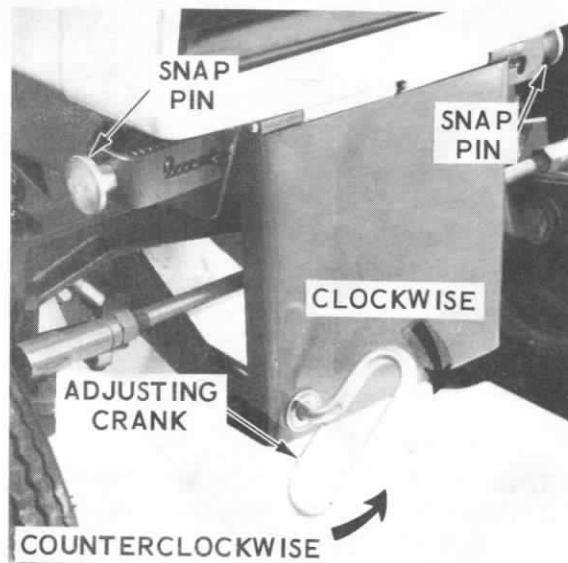

Figure 13.
2. Before attaching the mounting bracket on Model 210, 220, 222 or 224 tractors, turn the adjusting crank counterclockwise as far as possible to provide mounting clearance at the front axle. See Figure 13. This step is not required for the Model 442, 444, 644 and 646 tractors.